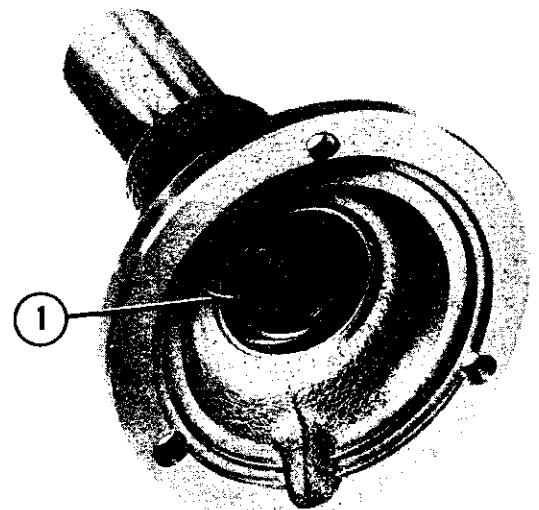

FIG. J-33—MAIN DRIVE GEAR BEARING RETAINER OIL SEAL
o. Check the main drive bearing retainer oil seal. If seal is worn or damaged it must be replaced. Refer to Fig. J-33.